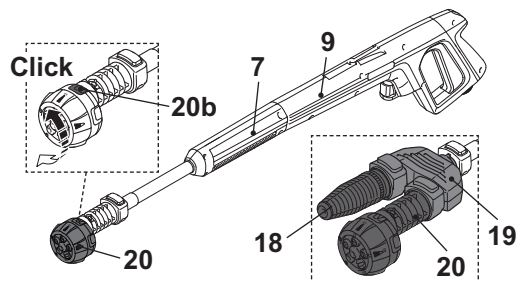

Fig. 10
1. Attach the extension lance (7) onto the spray gun (9) (Fig. 10).
2. Attach the 5 in 1 nozzle (20) onto the extension lance.